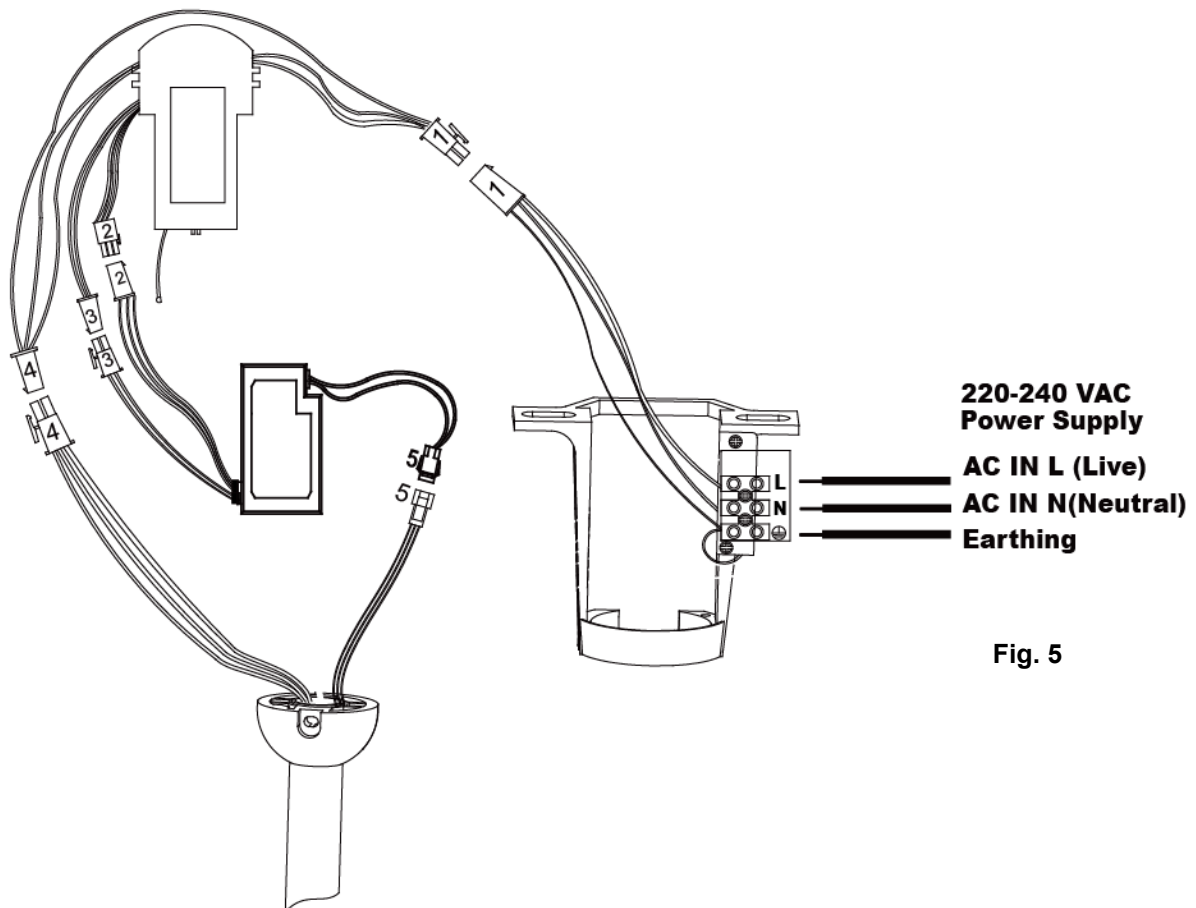

Fig. 5
- Refer to the wiring diagram provided for Electrical Connection/installation. Fig. 5
- After completing the electrical wiring at the mounting bracket terminal and connecting the remote receiver power input wires and fixed wiring via the 4-port quick connectors (1); connect the LED driver power input wires and remote receiver power output wires via the 2-port quick connectors (3); connect the LED driver PWM signal input wires and remote receiver PWM signal output wires via the 3-port quick connectors (2); connect the remote receiver fan output and motor input wires via the 4-port quick connectors (4); also connect the LED driver output wires and LED light wires via the quick connectors (5). **Fig. 5**